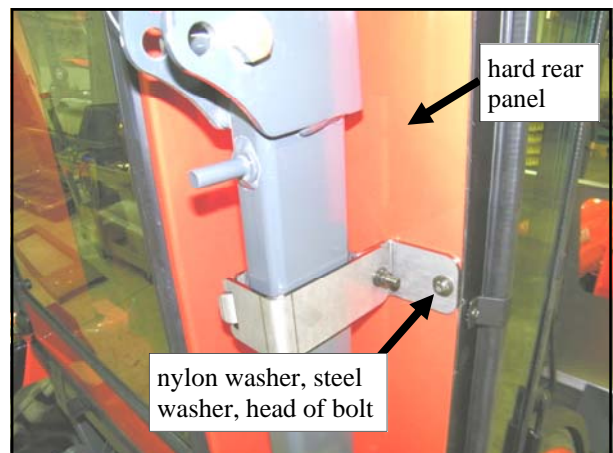

Fig. 5.4 (view from rear right side of tractor)
5.4 Per fig. 5.4, attach the back side of the side frame to the roll bar bracket assembly. Note: fig. 5.4 shows an optional hard rear panel in place. Use the following hardware in each of the four roll bar bracket assemblies: one 5/16 x 1" long button head bolt, one nylon washer, and one steel washer. Thread into the factory installed threaded inserts in the rear of the side frame tubing. Do not tighten bolts.